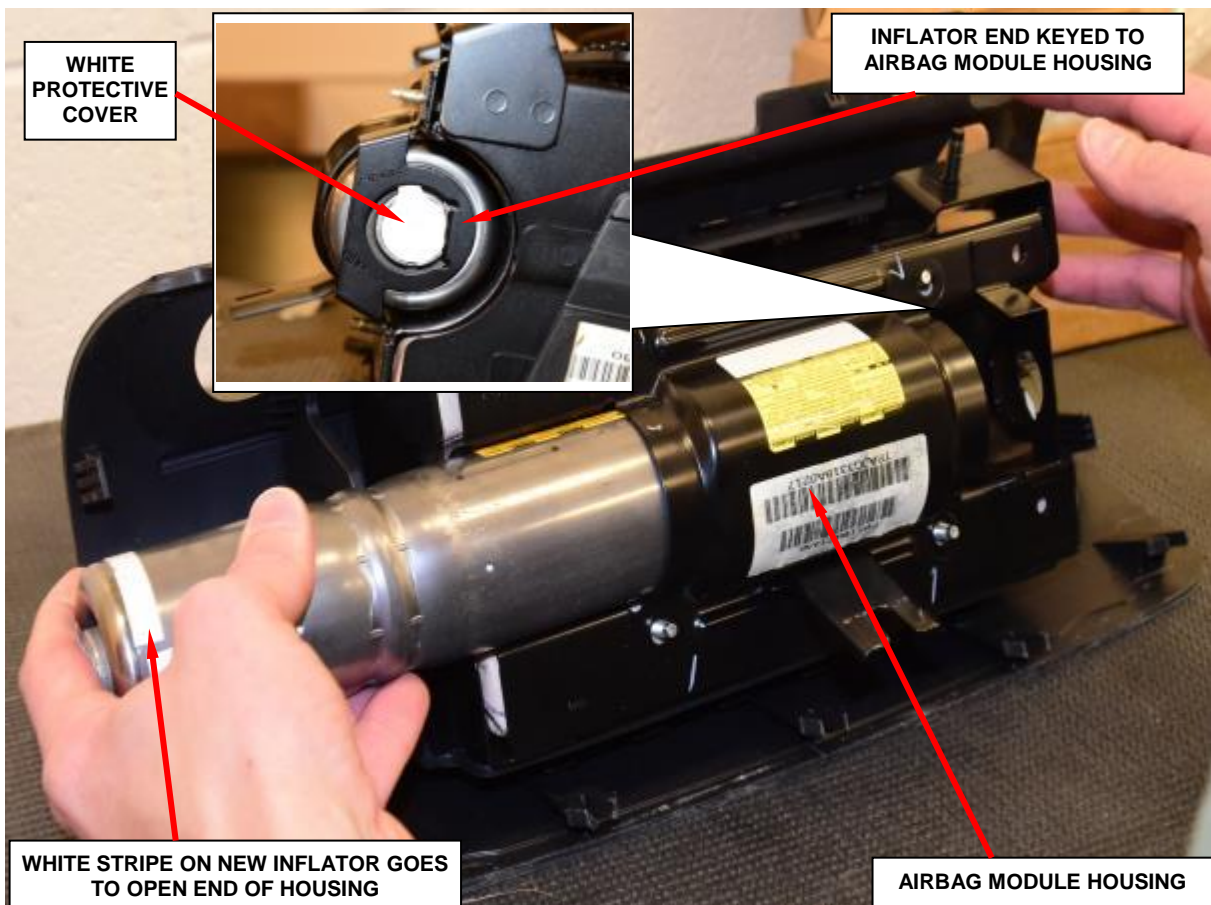

Figure 101 – Inflator Installation
NOTE: The inflator is keyed to fit into the housing. Ensure that when the new inflator is inserted, the keyed end goes in first (Figure 101).
- e. Slide the **NEW** inflator into the passenger airbag module housing. The keyed end is inserted first; therefore, the white stripe on the **NEW** inflator will be located at the open end (Figure 101).